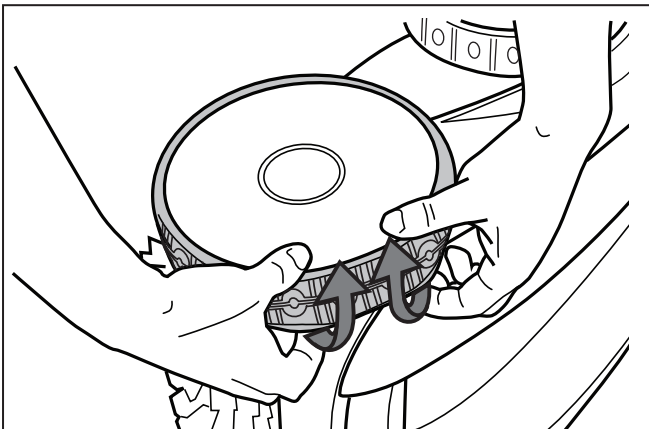

Figure 29. Pull the Track Over Wheels to Remove
1. Starting at one of the wheels, pull on the inside of the track to separate the tire lip from the wheel. See Figure 29. Remove the old tyre from the cleaner.